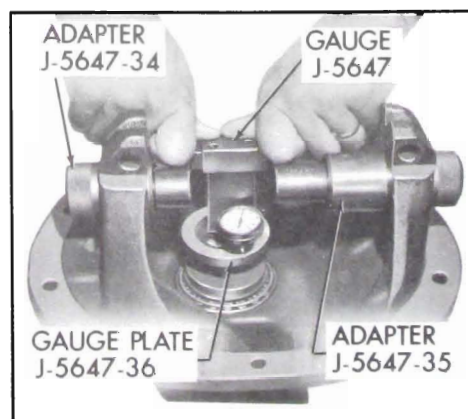

Fig. 6-67—Checking Pinion Setting
8. Be certain that differential support bores are free of burrs. Drive a wedge into each pedestal split and spread them just enough so that Adapters J-5647-35 and 34 can be inserted. Then place indicator gauge in carrier as follows: (See Figure 6-67.)
c. Position the spring-loaded pin of the indicator gauge in the centering hole of Gauge Plate J-5647-36, and position the contact button of dial indicator to bear against machined surface of Gauge Plate. See Figure 6-67.